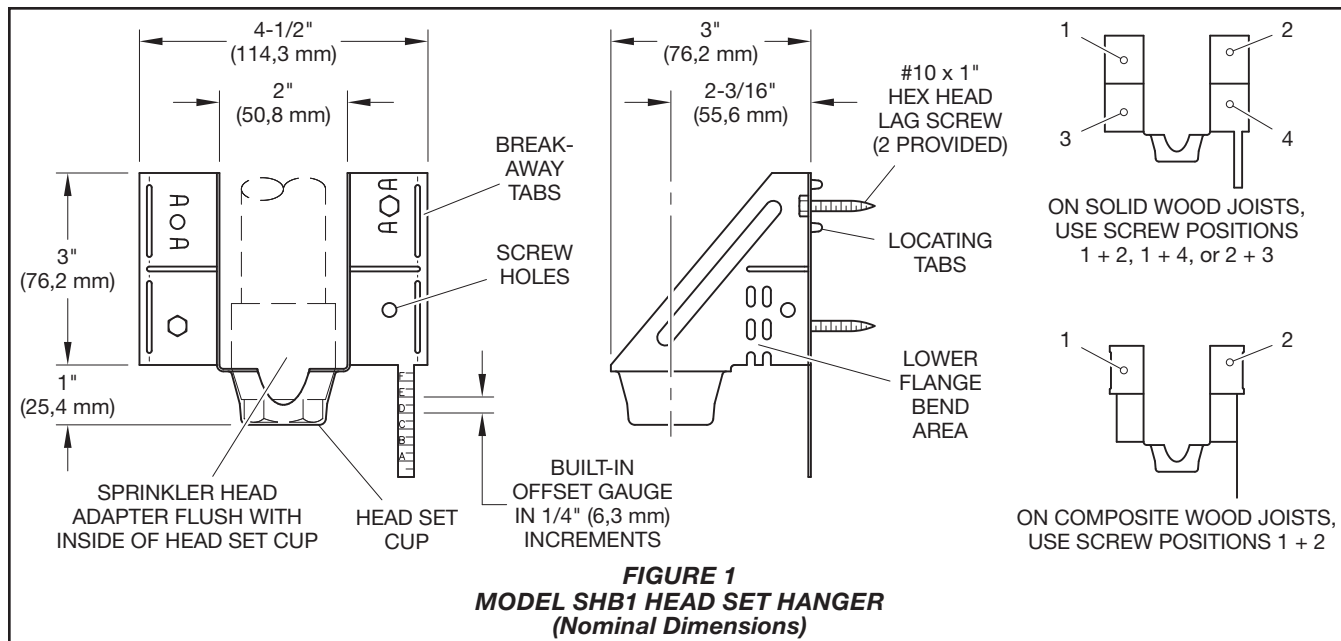

FIGURE 1
Step 3. Secure Head Set Hanger to wood surface using two #10 x 1” hex head lag screws provided. (Ref. Figure 1).
Step 5. Secure Head Set Hanger to wood surface using two #10 x 1” hex head lag screws provided (Ref. Figure 1).